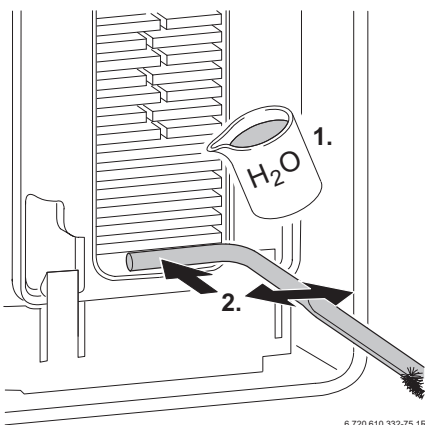

Fig. 48
- Flush the heat exchanger from the top. Refer to fig. 48.